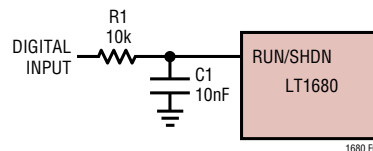

Figure 6. Digital Input Shutdown Integration Control
Figure 6 is an example of a digital control integration stage at the RUN/SHDN input. The integrator has a $\tau = (10)(10^3) \cdot (10)(10^{-9}) = (1.0)(10^{-4})$. This circuit technique, however, delays initiation of controller shutdown about $125\mu\text{s}$ from the reception of the shutdown signal ($5\text{V} - 0\text{V}$ transition).